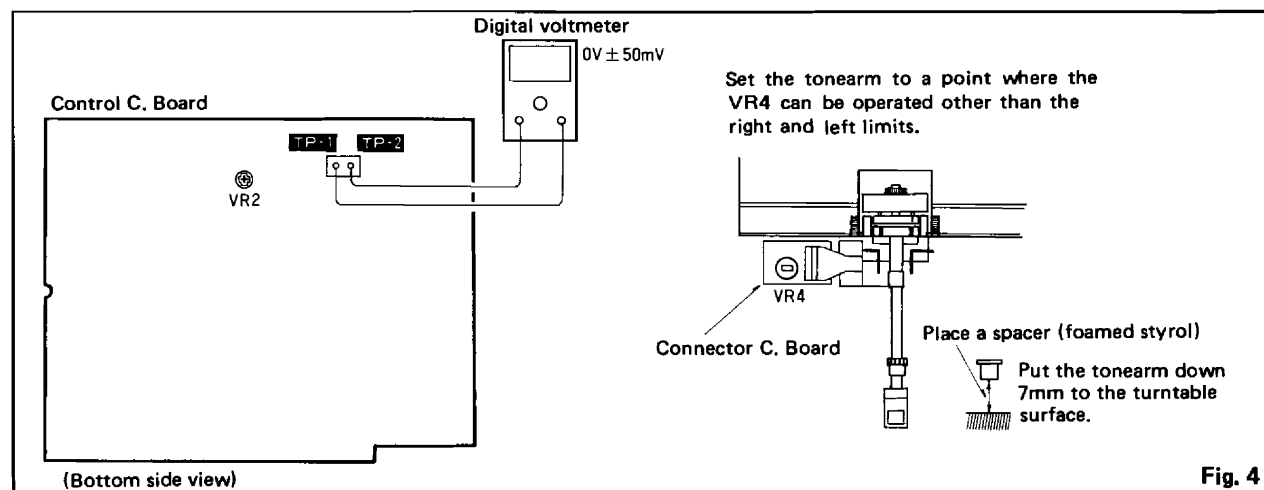

Fig. 4
- 1) As in Fig. 4, set the tonearm down to the position less than 7mm from the tonearm rest by the Down SW.